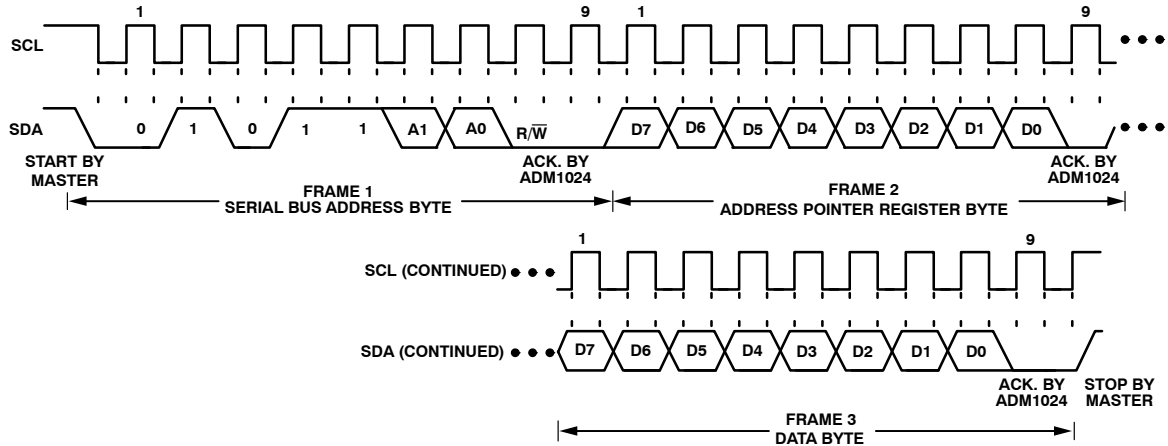
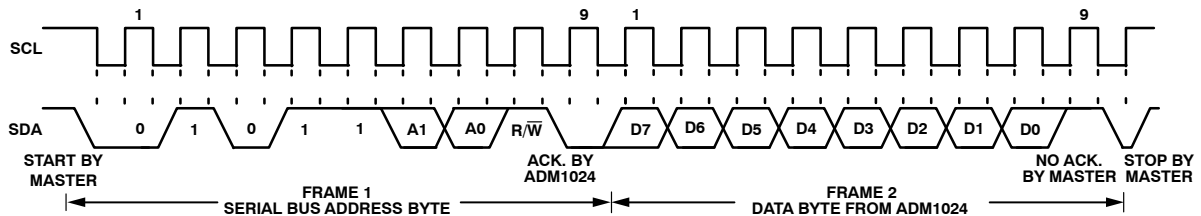

Figure 10. Writing a Register Address to the Address Pointer Register, then Writing Data to the Selected Register
Figure 12. Reading Data from a Previously Selected Register
To write data to one of the device data registers or read data from it, the Address Pointer Register must be set so that the correct data register is addressed, then data can be written into that register or read from it. The first byte of a write operation always contains an address that is stored in the Address Pointer Register. If data is to be written to the device, the write operation contains a second data byte that is written to the register selected by the Address Pointer Register. This is illustrated in Figure 10 The device address is sent over the bus followed by  $R/\overline{W}$  set to 0. This is followed by two data bytes. The first data byte is the address of the internal data register to be written to, which is stored in the Address Pointer Register. The second data byte is the data to be written to the internal data register.
A read operation is then performed consisting of the serial bus address, R/W bit set to 1, followed by the data byte read from the data register. This is shown in Figure 12.
2. In Figure 10 to Figure 12, the serial bus address is shown as the default value 01011(A1)(A0), where A1 and A0 are set by the three-state ADD pin.